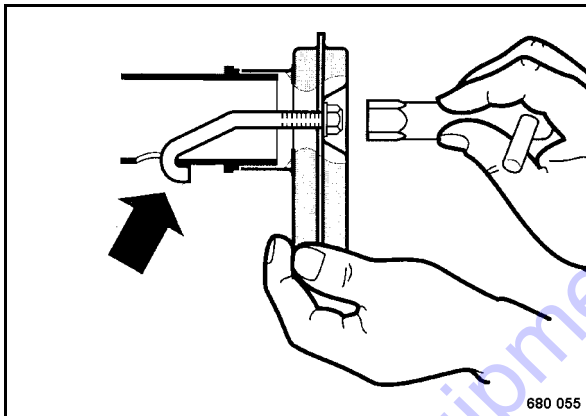

Fig. 58
- Slide the exhaust screen on with the fastening bracket (Fig. 58).